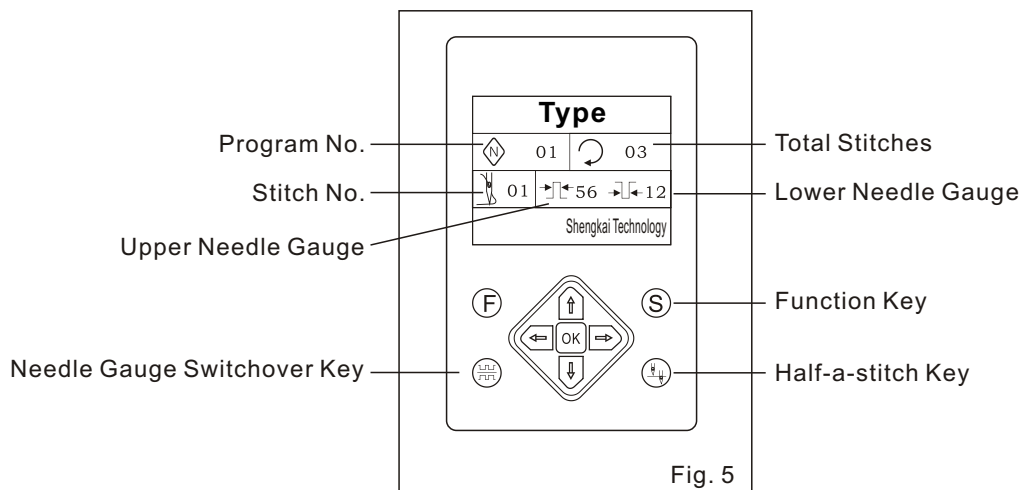

Fig. 5
Turn on power source, check the indicator beside the switch, working light, display. For 782NP, whether gas source has been normally opened, and check the barometer (0.5Mpa). For 781NP, Press short needle (upper needle gauge) switchover key (No. 15 in Fig. 4) or pedal short needle (upper needle gauge) switchover key (No. 28 in Fig. 1), short needle (upper needle gauge) switchover lever (No. 25 in Fig. 6) on the right of machine head, moving up and down. For z782NP, press short needle (upper needle gauge) switchover key (No. 23 in Fig. 5) or pedal short needle (upper needle gauge) switchover key (No. 28 in Fig. 1), display (No. 18G in Fig. 5) on the right of machine head, whether any change in pattern.
Appearance of (782NP) controller, display interface and button position referred to Fig. 5
5. (782NP) Sewing Instructions (Fig. 5)
The fourth part, upper needle gauge: icon and dialog box position referred to Fig. 5.
第五部分，下针距：其图标和对话框位置见图5。
The fifth part, lower needle gauge: icon and dialog box position referred to Fig. 5.
Press → key to move the cursor into the dialog box of total stitches (Fig. 5). Here, the cursor in the dialog box of the total stitches on display screen will be flashing.
(2) To adjust (782NP) short needle. E.g.: press function key (No. 20 in Fig. 5), and cursor will move into the box of upper needle gauge (No. 18C in Fig. 5) on display. Press plus key (No. 21 in Fig. 5), or minus key (No. 22 in Fig. 5), to amend and confirm the values. Press OK key to finish, and the 18G in Fig. 5 will change its pattern automatically.
(2) To adjust (782NP) long needle (lower needle gauge). E.g.: press function key (No. 20 in Fig. 5), and cursor will move into the box of lower needle gauge (No. 18B in Fig. 5) on display. Press plus key (No. 21 in Fig. 5), or minus key (No. 22 in Fig. 5) to amend and confirm the value. Press OK key to finish. And 18G in Fig. 5 will automatically change its pattern.